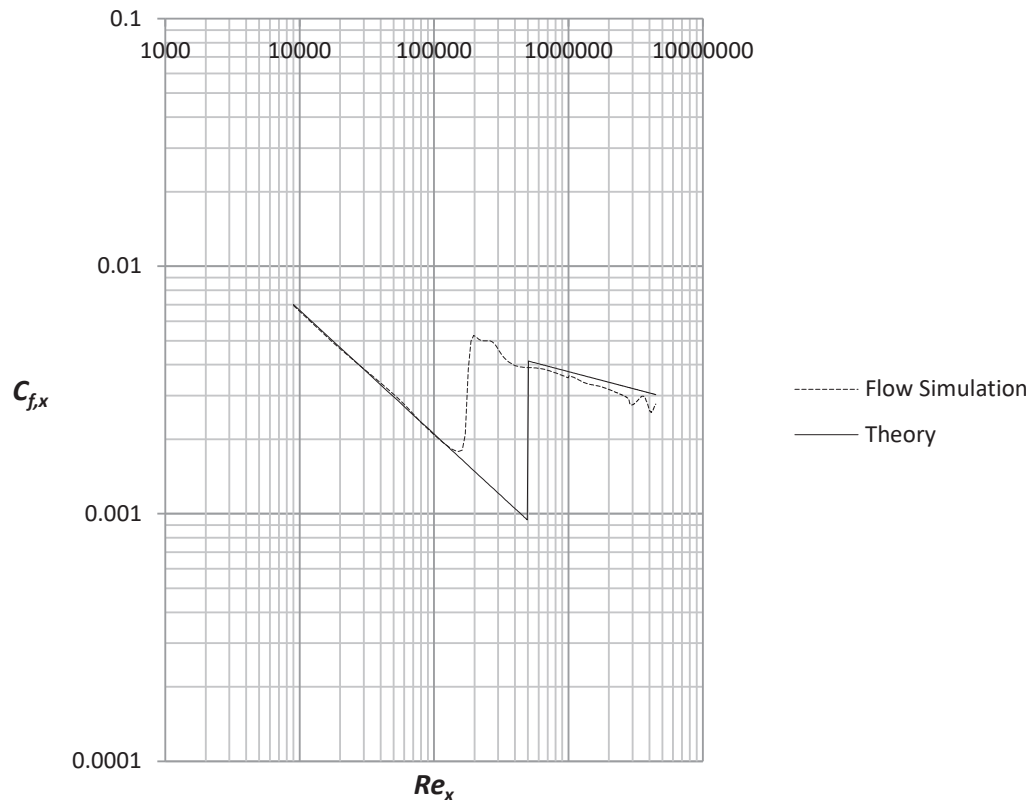

Figure 2.32 Flow Simulation (dashed line) and theoretical turbulent friction coefficients
32. Place the file “**graph 2.32**” on the desktop. Repeat step **24** and choose the sketch  $x = 0 - 0.9$  m, uncheck the box for **Velocity (X)** and check the box for **Shear Stress**. Rename the xy-plot to **Local Friction Coefficient for Laminar and Turbulent Boundary Layer**. An Excel file will open with figure 2.32. Figure 2.32 is showing the Flow Simulation is able to capture the local friction coefficient in the laminar region in the Reynolds number range 10,000 – 200,000. At  $Re$  slightly less than 200,000 there is an abrupt increase in the friction coefficient caused by laminar to turbulent transition. In the turbulent region the friction coefficient is decreasing again but the local friction coefficient from Flow Simulation is significantly lower than empirical data.